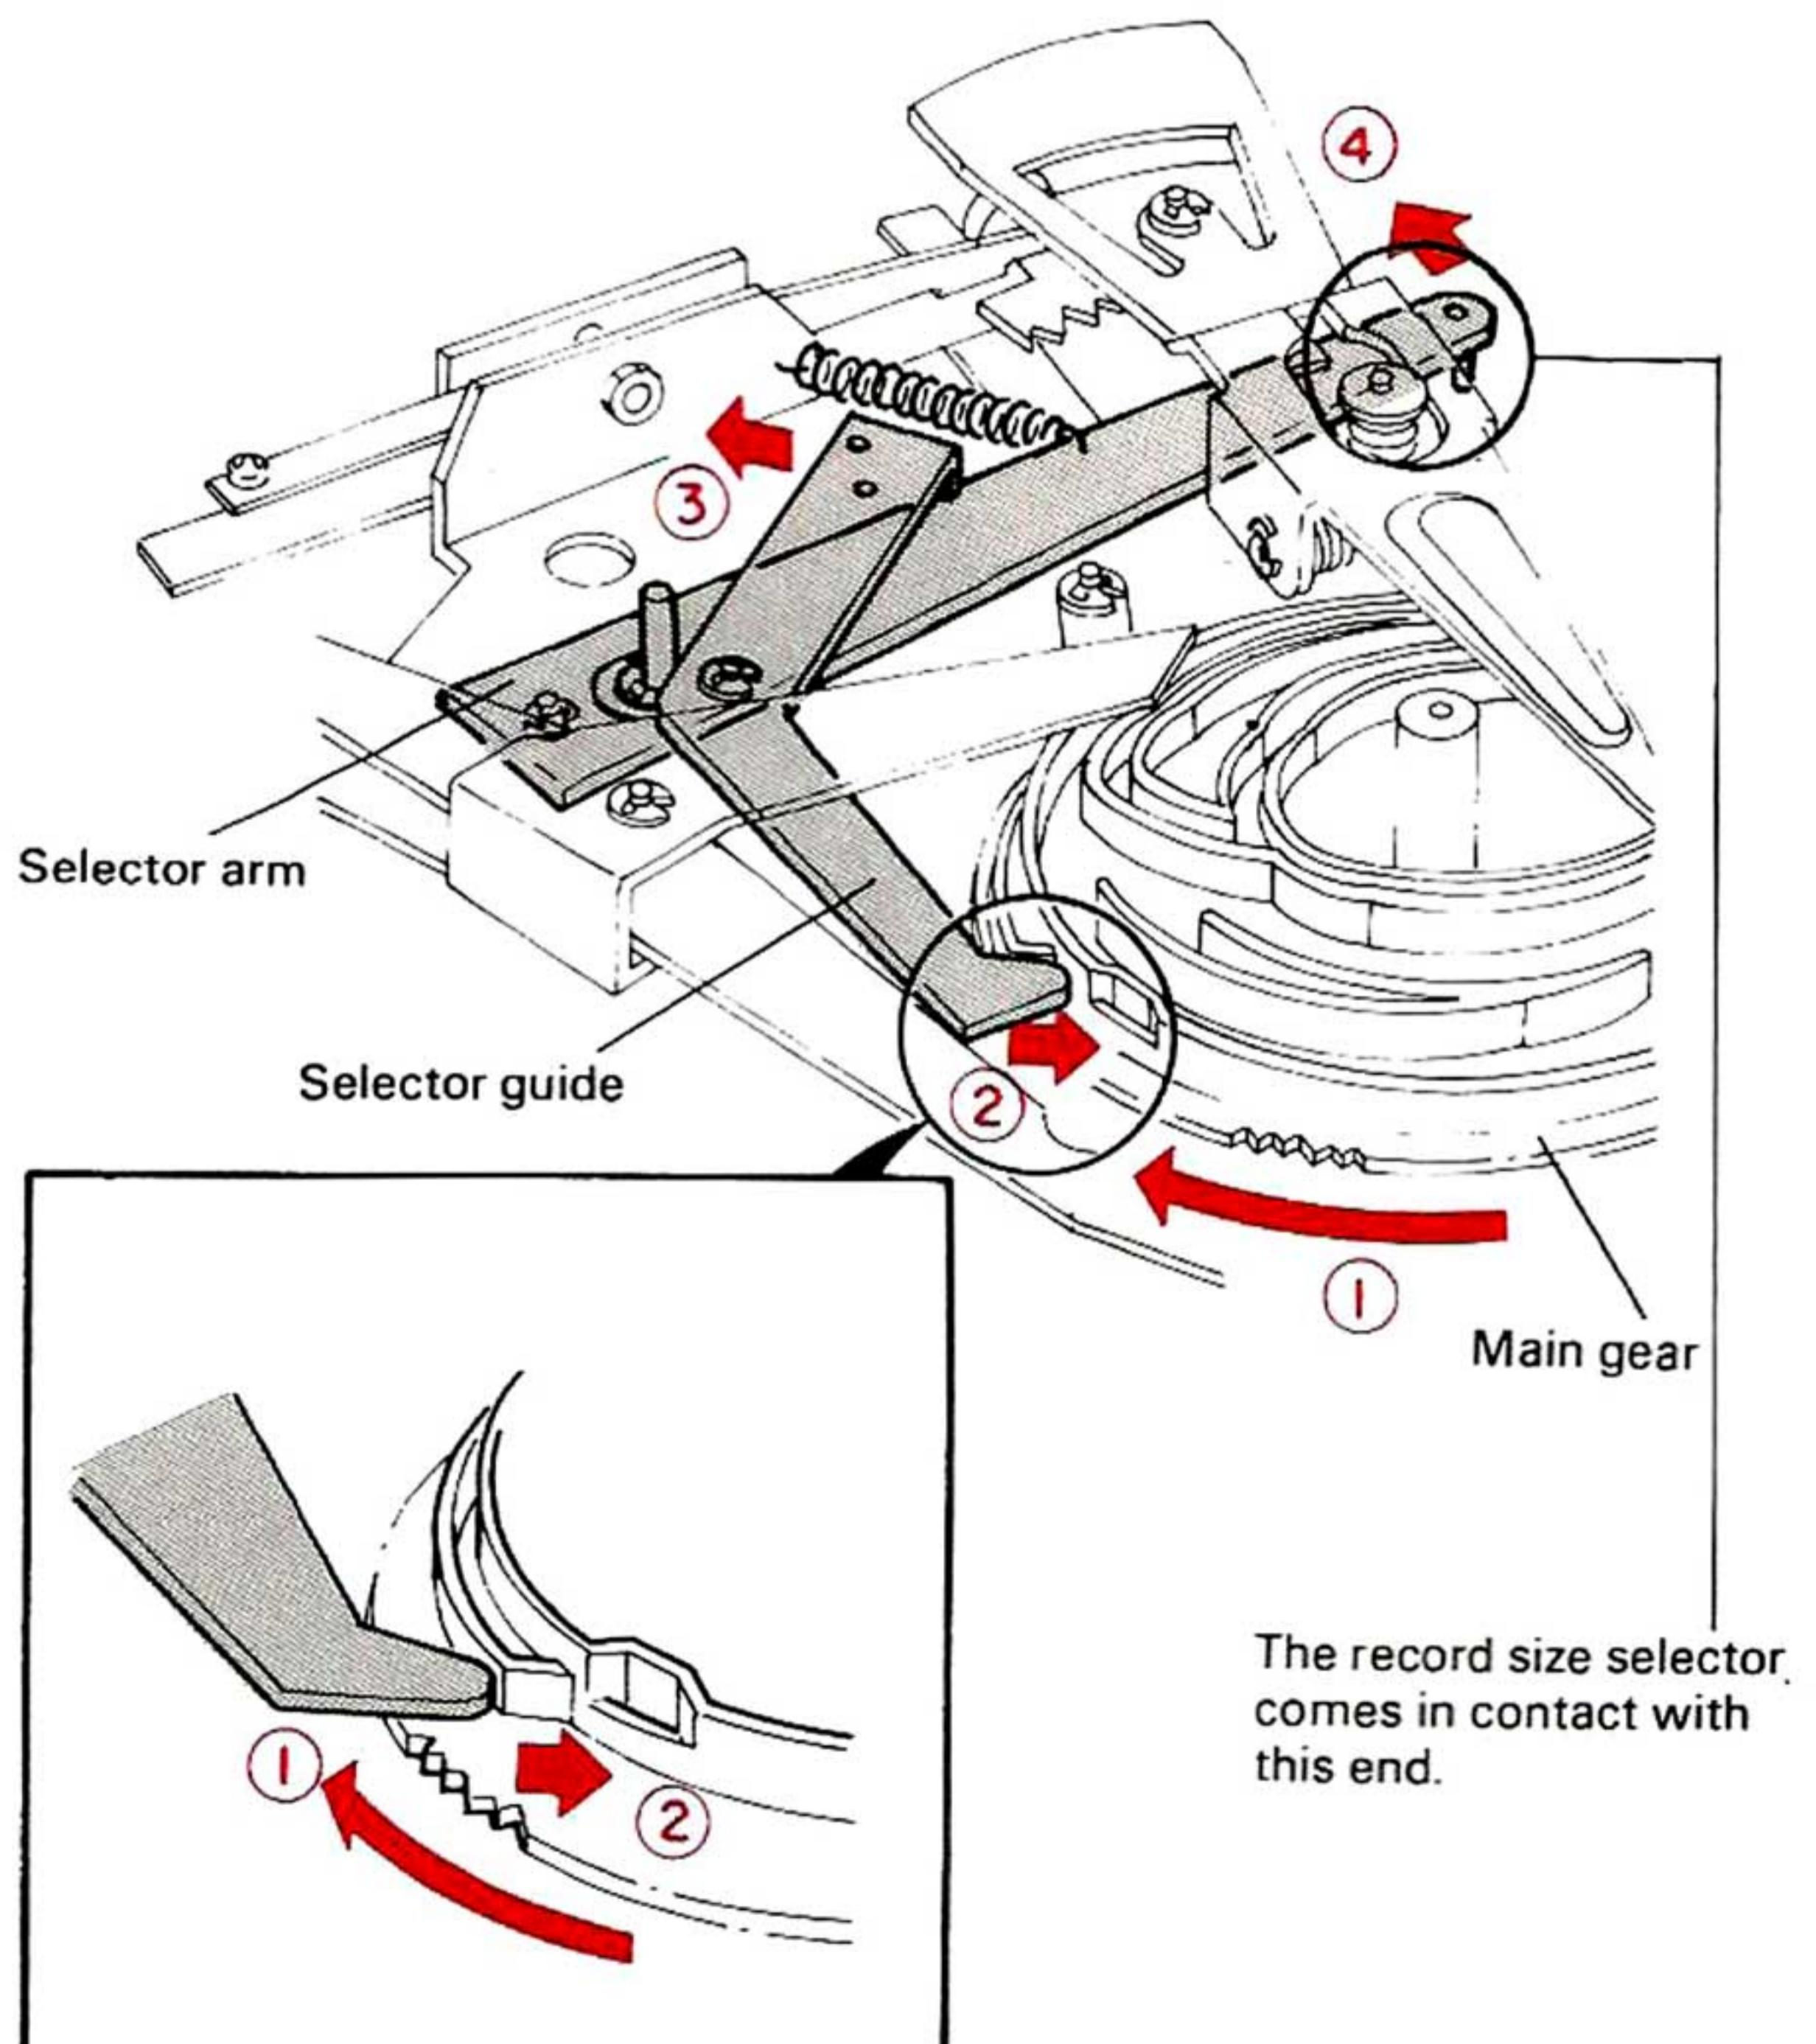

Fig. 4-1 Selector Arm and Selector Guide
When rotation plate 1 enters the inner groove of the main gear, the end of the selector guide comes to the part where the radius of the main gear becomes smaller, letting the end move inward (in direction ②). The other end of the selector guide shifts in direction ③ and the selector arm is drawn by the spring in direction ④. The record size selector which is set by the selector knob on the cabinet comes into contact with the end of the selector arm to determine the position where the tonearm is to be lowered. (Fig. 4-1.)